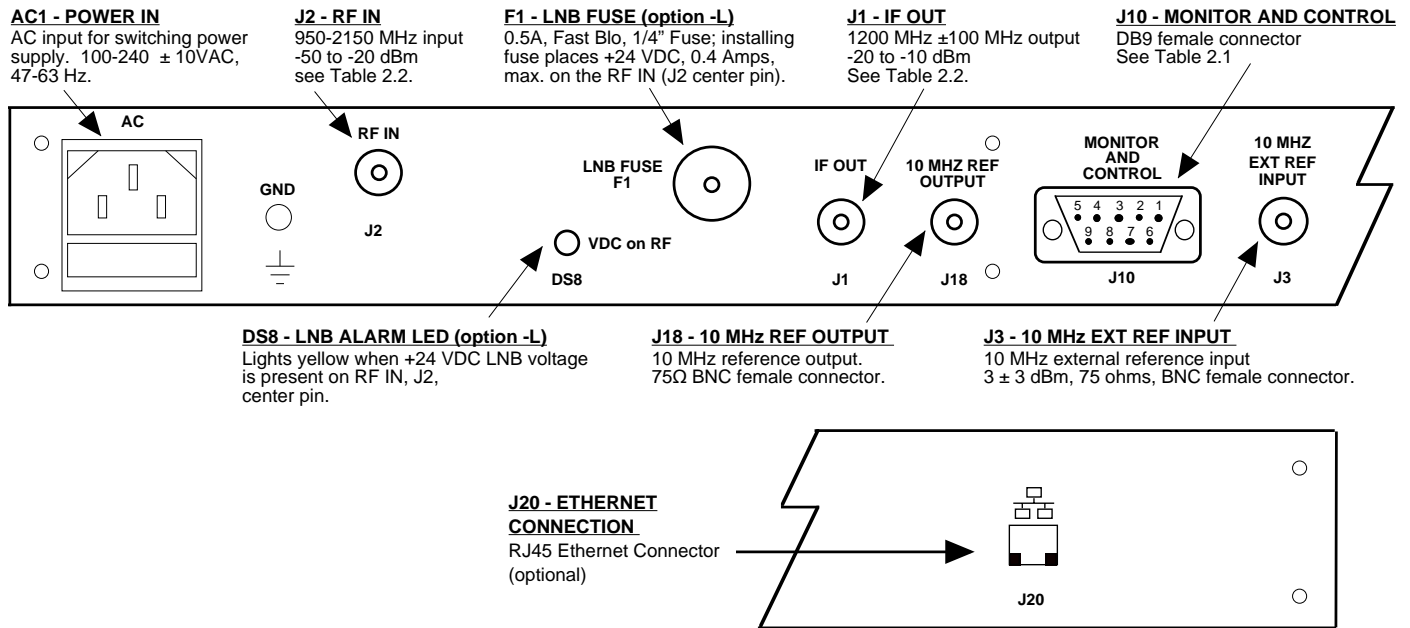

FIGURE 2.2 2016-02-1200 Rear Panel I/Os
Figure 2.2 shows the input and output connectors on the rear panel.
1. Connect a -50 dBm to -20 dBm signal to RF IN, J2 (Figure 2.2)